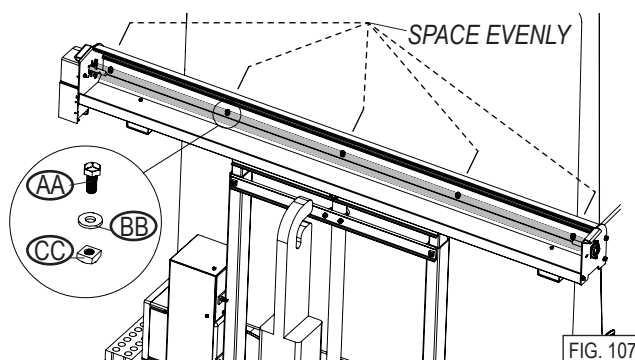

FIG. 107
- On the tarp axle, loosen the pre-installed hardware and space the **bolts (AA)**, **washers (BB)** and **nuts (CC)** evenly along on the axle slot. See Figure 107.